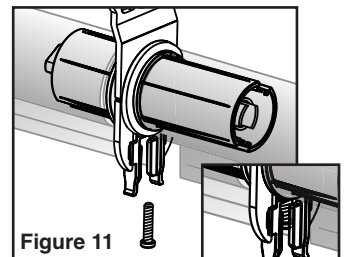

Figure 11
11. Insert the adjustable adapter (open end facing downward) by applying pressure to the ends. The teeth of the adjustable adapter should engage the notches in the link bracket. The system is NOT locked at this point but CAN be supported by the adjustable adapter. (See Figure 11)